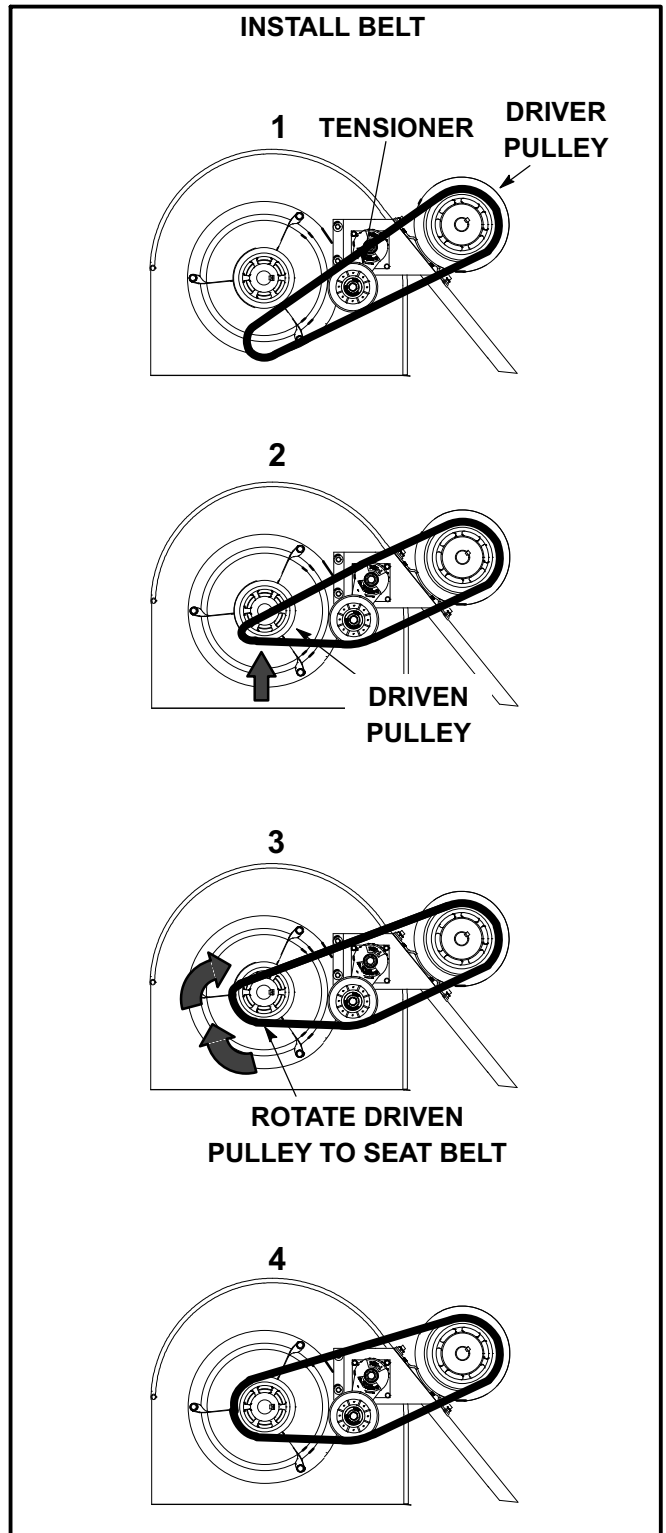

FIGURE 22
- 6- Replace blower belt. See figure 22.